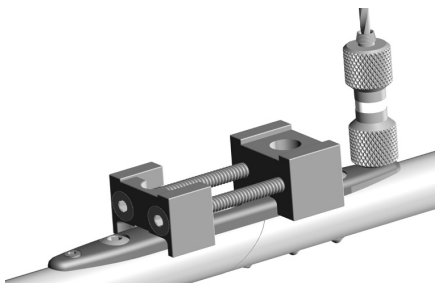

FIGURE 4
- Locking screws are inserted in both ends of the plate. Always use the screw-in double-threaded drill guide that will allow a 2.3mm drill bit to be drilled perpendicular to the plate surface. | **FIGURE 4**